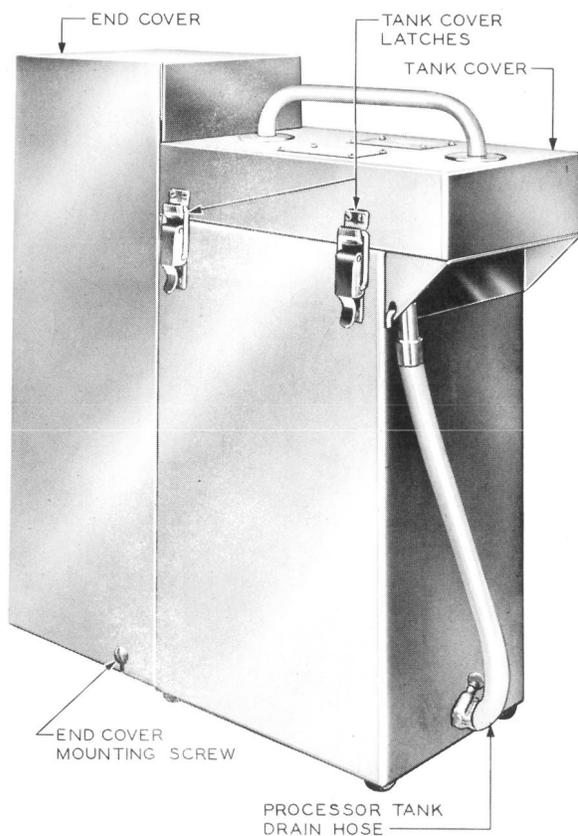
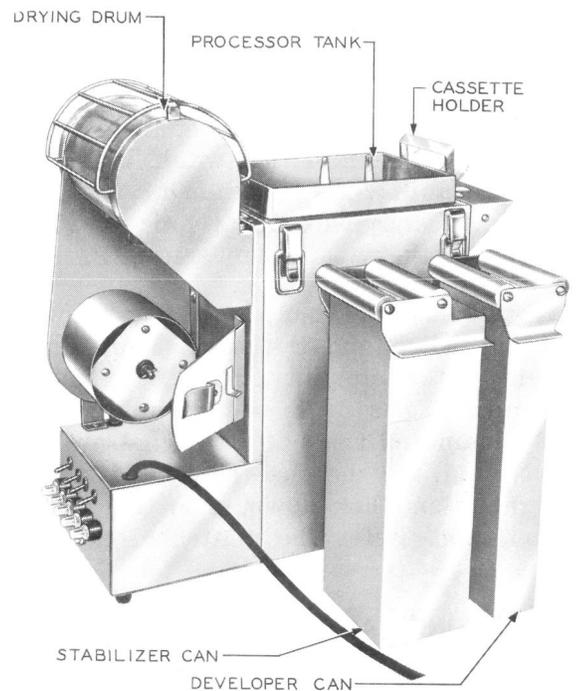

Fig. 11 – Photo Processor With End and Tank Covers in Place
Fig. 12 – Photo Processor With Covers and Cans Removed
6.05 Referring to Fig. 11, disengage the tank cover latches on the photo processor. Using the 5-inch E screwdriver, loosen the end cover mounting screws and lift this cover from the processor. Insert the plug of the power lead into the proper receptacle. Remove the tank cover and stand it in an upright position on the rollers. Lift the developer and stabilizer cans from the processor tank. These parts are shown in Fig. 12.
7.18 To empty the processor tank, unhook the drain hose nozzle from the processor (Fig. 11) and drain the water from the tank into a suitable container. Remove any metal strips which may have been torn off the paper during processing. Clean the tank with a damp KS-14666 cloth, and rinse the tank with water.